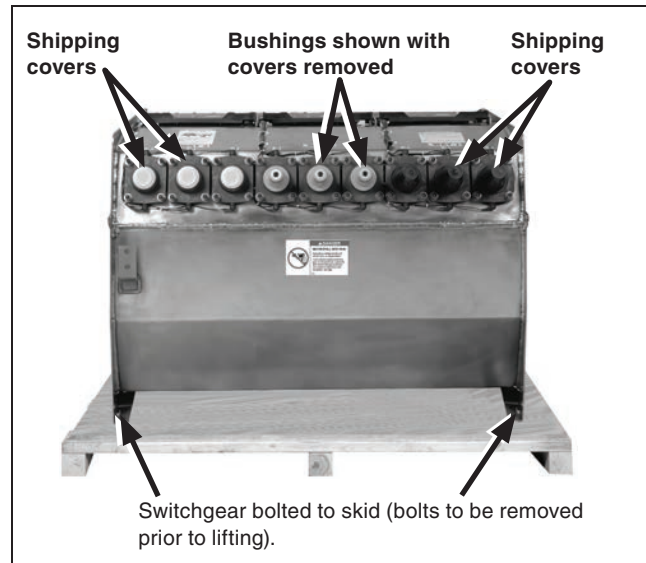

Figure 14. Unbolt the tank from the skid and install on pad.
STEP 5. Remove any packing or foam from around the viewing window and check the gas pressure gauge to make sure it is in the Green zone. Contact S&C Electric Company if the gas pressure gauge is not in the Green zone. See the “Gas-Pressure Gauge” section on page 18 for more information. Unbolt the tank from the skid and lift it above the mounting pad, observing the precautions given under the “Handling” section on page 8. Verify the tank is positioned correctly with respect to the cables and anchor bolts. See Figure 14 on page 14.